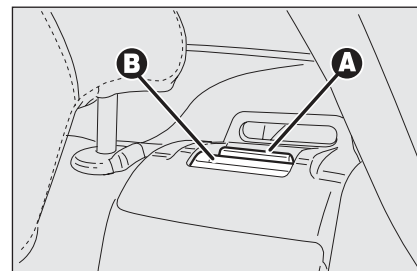

fig. 96
- ☐ lift seat back lever **A**-fig. 96 and tilt the seat back forward. Lever raising is indicated by a "red band" **B**.
*Make sure the backrest is properly secured at both sides (“red bands” **B**-fig. 96 not visible) to prevent it moves forward in the event of sharp braking causing injuries to passengers.*